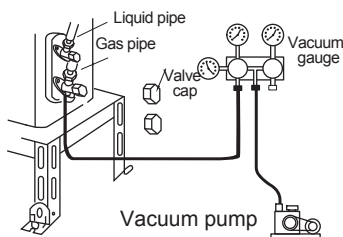

Fig. 5
8. Tighten bonnet of low-pressure valve. (As shown in Fig.5)